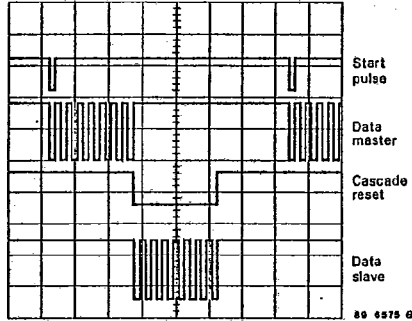
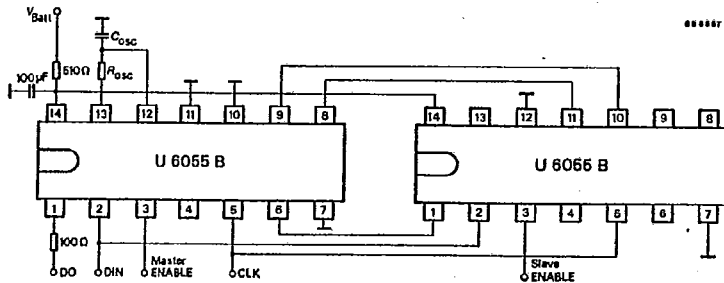

Fig. 4
Fig. 7
Scanning of up to 16 switches or pushbuttons is possible by connecting together two transmitters. The connection between master and slave is shown in Fig. 7. The data output DO of the slave is connected with the data input DIS of the master; the two data signals are combined with each other there and are available at the data output DO of the master (Figs. 4 and 5).
- DIN and CLK of master and slave are parallel-connected. One separate ENable line for master and slave in each case. Loading of the shift registers takes place separately, Fig. 7.